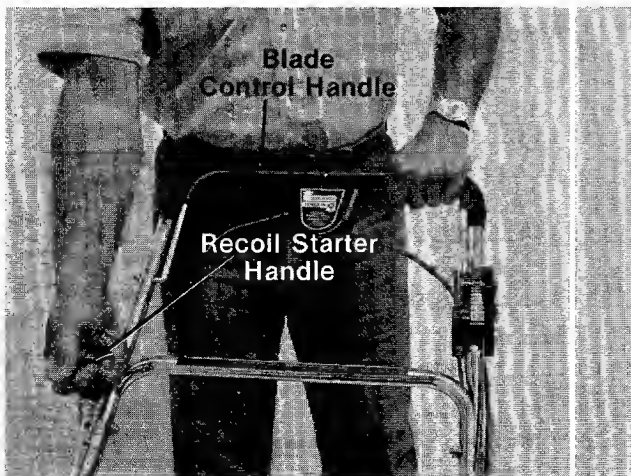

FIGURE 18.
2. Standing behind the unit, depress the blade control handle and hold it against the upper handle as shown in figure 18.